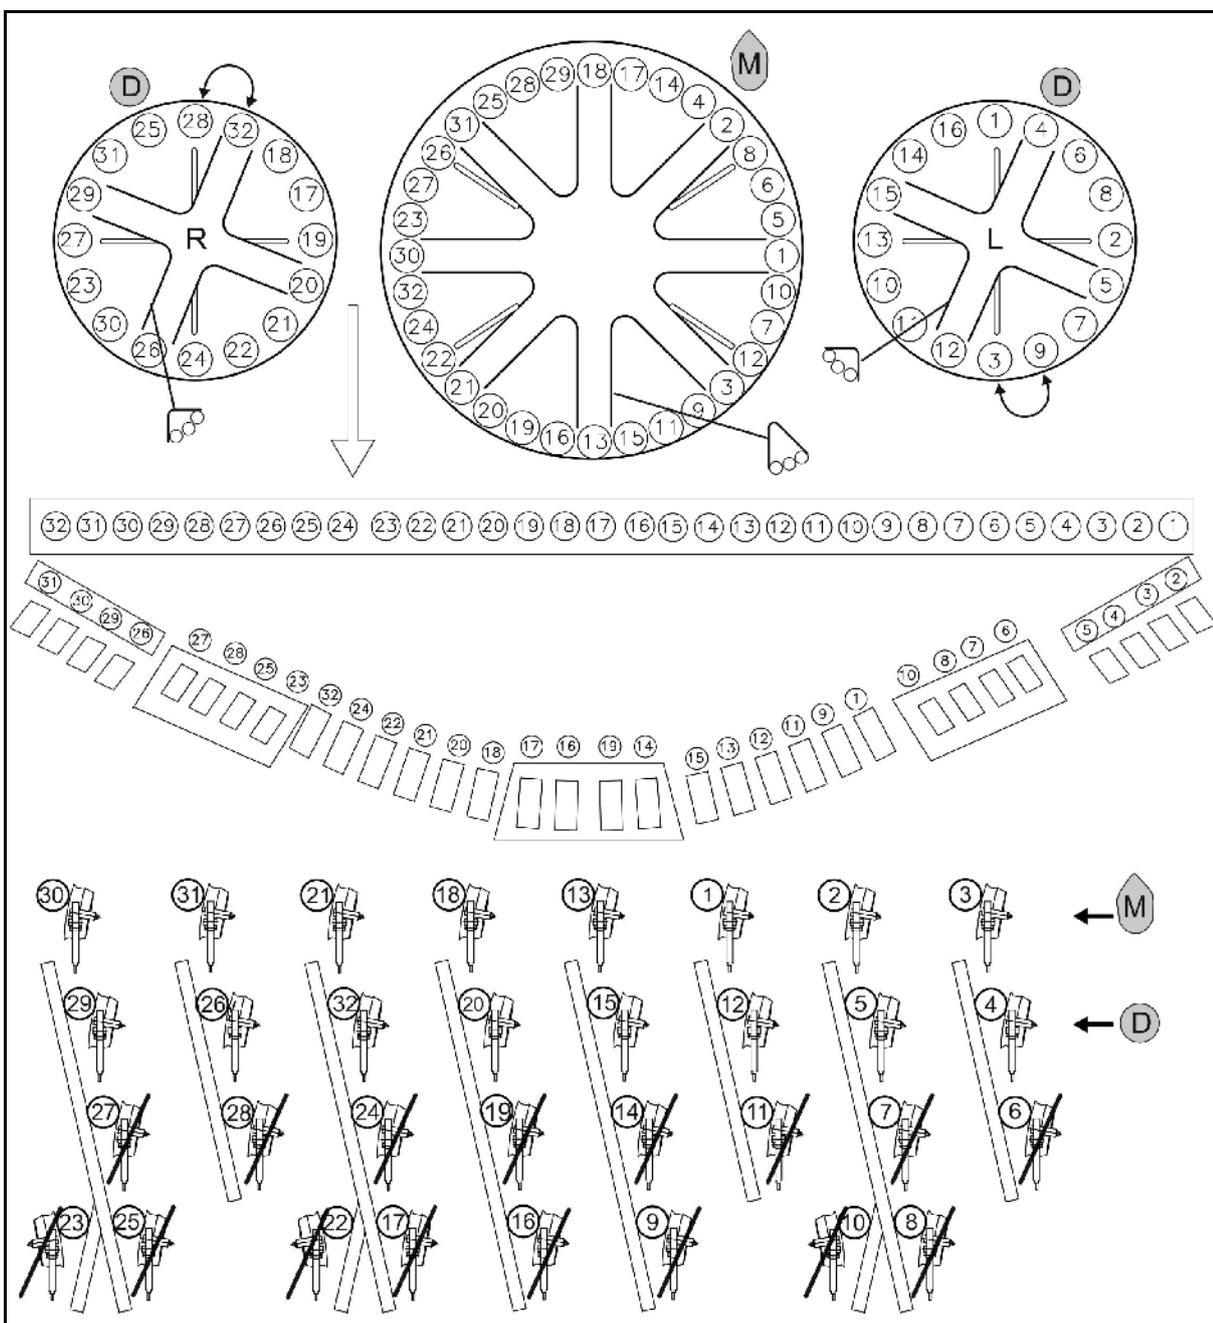

Fig. 48
- Maize M: Install the locking plates according to Fig. 48.
- Fertiliser D: Install the locking plates according to Fig. 48.